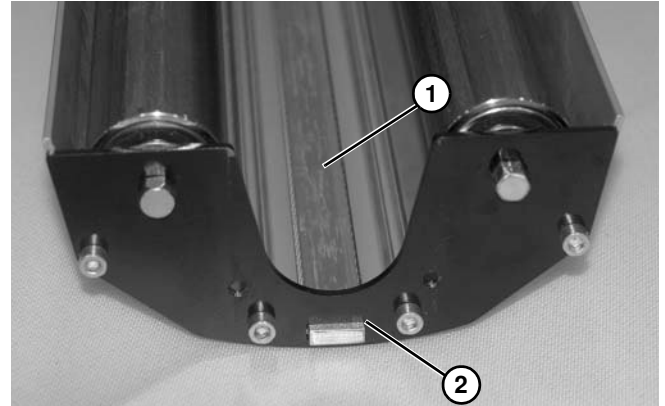

Figure 94
Before reassembly, make certain that the bar (Figure 94, item 1) rests inside slotted area (Figure 94, item 2) in each side bracket.